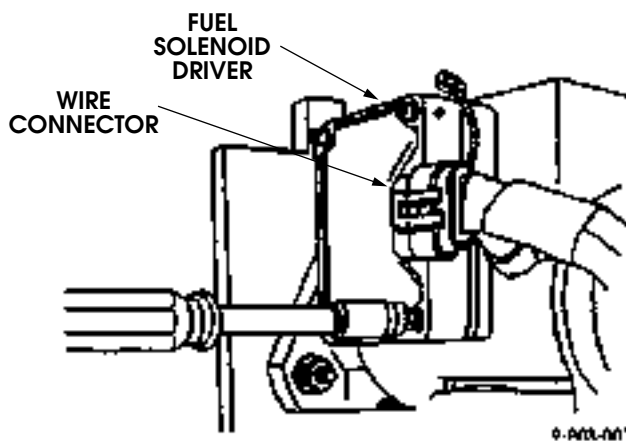

Figure 3-16: Fuel Solenoid Driver Replacement
6. Disconnect the wiring connector at the Fuel Solenoid Driver (Figure 3-16).